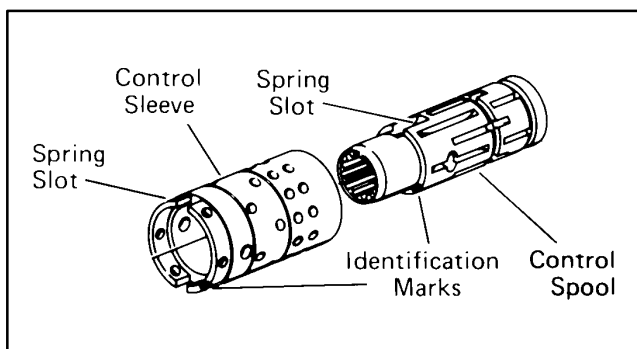

Figure 37
5. Assemble spool and sleeve carefully so that the spring slots line up at the same end. Rotate spool while sliding parts together. Some spool and sleeve sets have identification marks, align these marks as shown in Fig. 37. Test for free rotation. Spool should rotate smoothly in sleeve with finger tip force applied at splined end.